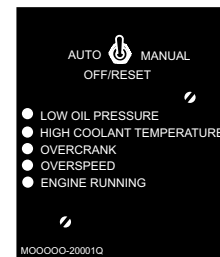

Figure 27. Engine Running (LED ON)
- Verify that the **engine running** status LED on the MPEC module (Figure 27) is lit (ON) after the engine has started